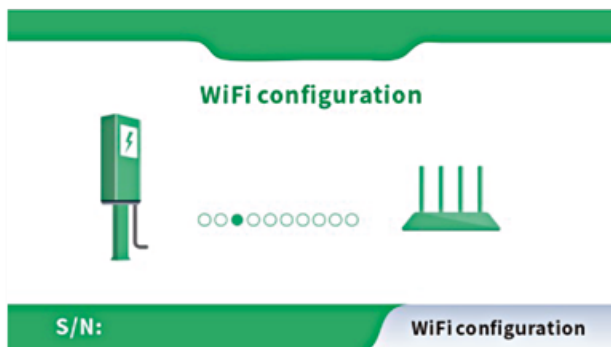

Fig. 6-5 The WiFi configuration page
- e) Press and rotate to reset the emergency stop button 3 times in a row until the four indicator lights turn on in a cycle according to the running lamp mode. At the same time, the LCD screen will switch to the WiFi configuration page (shown as Fig. 6-5).